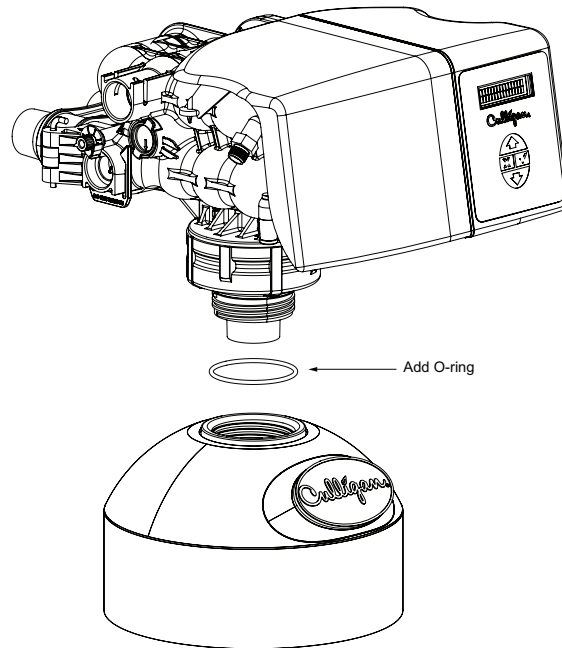

Figure 4. Mounting the control valve.
Follow the instructions below and Figure 4 to mount the control valve.
1. Assemble the O-ring, located in the parts pack, to the control valve. See Figure 4.